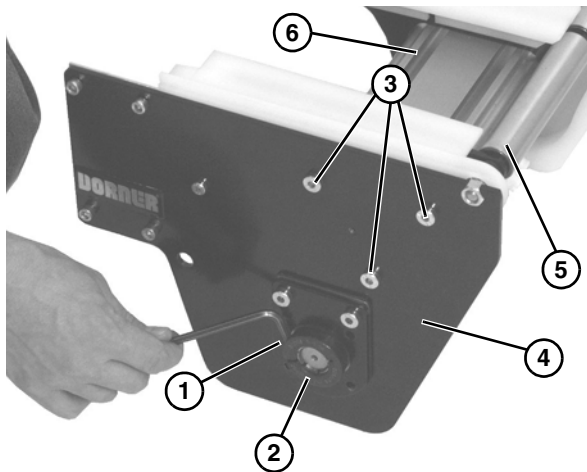

Figure 28
7. Loosen the bearing collar set screw (**Figure 28, item 1**) and remove bearing collar (**Figure 28, item 2**).
8. Remove three socket head screws (**Figure 28, item 3**), and remove plate (**Figure 28, item 4**) from drive spindle (**Figure 28, item 5**) and crossmember (**Figure 28, item 6**).